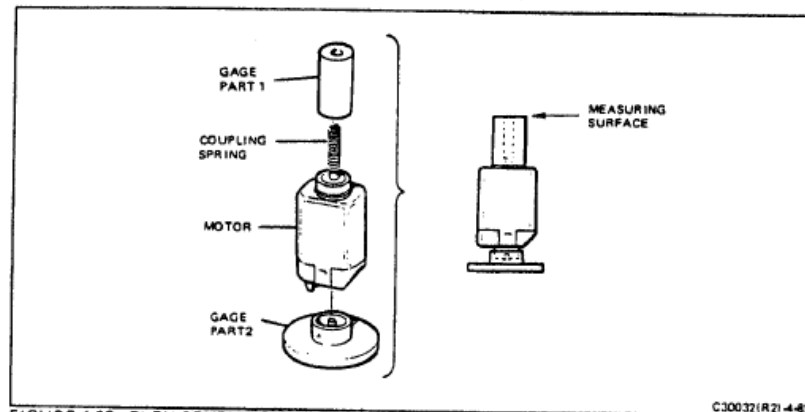

FIGURE 4-85 FLEX COUPLING GAGE
1. Before installing the motor, it is imperative that the coupling spring position be critically checked. Use the two piece flex coupling gage (Special Tool #11679). Place the gage as shown on Figure 4-85. The end of the coupling spring should be flush with the end surface of the gage. If the spring extends beyond the gage, leave the motor on the bottom (support) end of the gage. Lift off the upper half of the gage and use a jeweler's screwdriver to move the spring further onto the shaft. If the spring does not reach the end of the gage, remove the gage and, using a jeweler's screwdriver, work the spring further from the motor flange.